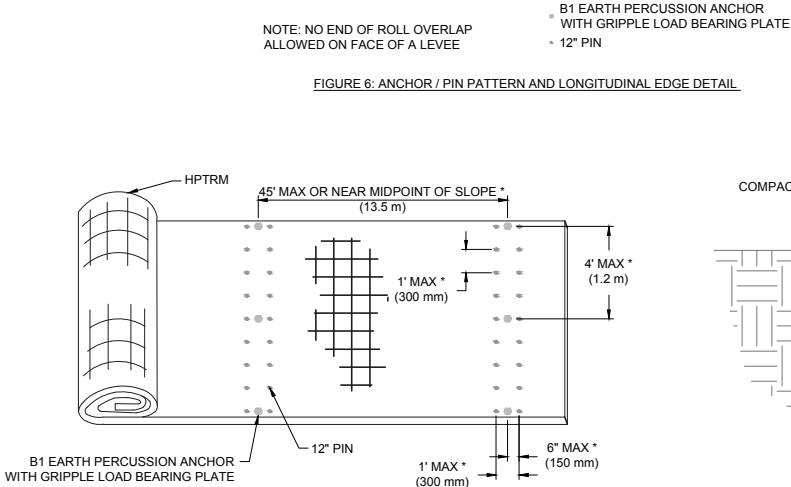

FIGURE 10: SIMULATED CHECK SLOT DETAIL
- For channel bank heights or channel bottom widths greater than 45 ft (13.7 m), install simulated check slots per Figure 10. This method includes placing two rows of pins 12 in (300 mm) apart on 12 in (300 mm) centers and one row of Gripple Earth Percussion Anchors between the rows of pins on 4 ft (1.2 m) centers at 45 ft (13.7 m) maximum intervals (see Figure 10) or across the midpoint of the slope for slope lengths less than 60 ft (18.2 m).
- Gripple Earth Percussion Anchor assembly consists of an anchor head, stranded cable, gripping device and two crimping ferrules. Materials of each component have been selected to achieve an expected life of more than 50 years. The anchor head is made from die cast aluminum and is bullet nosed in shape to penetrate a turf mat without breaking strands of the mat. The cable is zinc-aluminum coated carbon steel and is of 1 x 19 construction. The ferrules are made from aluminum. The grip is die cast from zinc and uses a ceramic roller to clamp the cable in place. The one piece zinc top plate will have openings on the top to facilitate vegetative growth and the grip plate is approximately 0.2 inches thick and so will only protrude above the surface of the mat far after installation. The grip is designed such that the top of the cable can be cut below the top surface of the grip in a recessed cavity. See Figure 10.